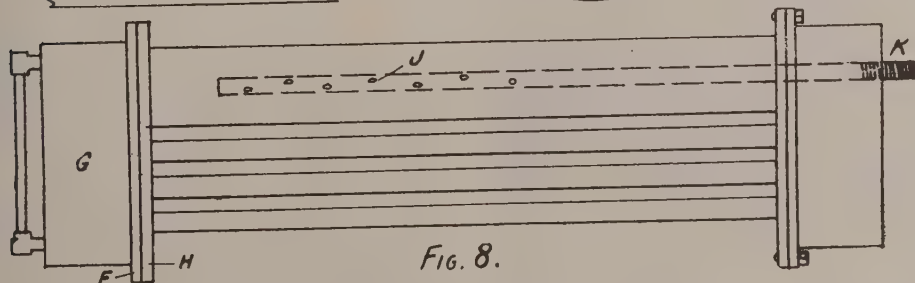
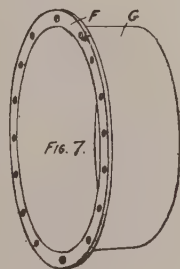

Fig. 8.
Fig. 7.
Hard-solder collar F (Fig. 7) on to one edge of tube G (Fig. 7), and a disc into other end of tube; this will form the caps or boiler ends, as shown complete in Fig. 8. Mark out the collars for holes at suitable intervals, and centre same. Tack together with solder the collar marked F on Fig. 8, and the brass disc to which the tubes are attached, marked H on Fig. 8, and drill holes where you have already centered to take $\frac{1}{8}$ -in. bolts.
Now unsolder the collar from the other part and tap the holes in H (Fig. 8). The water-gauge can now be made and fitted to one end of the boiler as shown in
Fig. 8. Get a piece of tube about $\frac{1}{4}$ in. outside diameter, stop up one end, and cut a thread on the other, also drill some small holes in it, as shown at J in Fig. 8; fix it into boiler end, as shown at K in Fig. 8. This forms the pipe to supply steam to the engines, and will prevent the boiler from priming. The caps can now be bolted on with asbestos packing between the flanges. The boiler case is made by bending a piece of tin as shown in Fig. 9 (A). You will punch some holes along the bottom edges and three large ones at the top which communicate with the funnels. This case is attached to
Small chipping chisels are sometimes the only tools which can be brought to bear upon model work, especially in hollows and angles. They should be made from square tool steel, filed up to shape truly and squarely, hardened and tempered to a full straw colour. Figs. 7 and 8 show two useful shapes, and the purposes for which they are used. They are first shaped with a somewhat long bevel, and have a shorter one just at the cutting edge, to make the angle more obtuse and prevent breakage, as shown in the figures. Four would form a useful set, two like each of the figures, made right and left respectively. These small chisels should be sharpened on an oilstone, but the extremely fine and sharp edge should be just smoothed off with one or two light strokes on the stone.